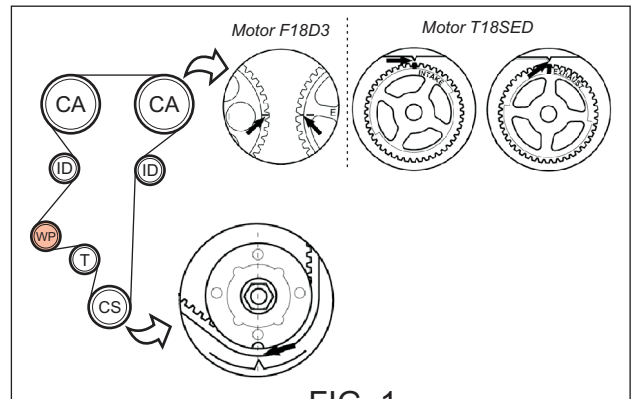
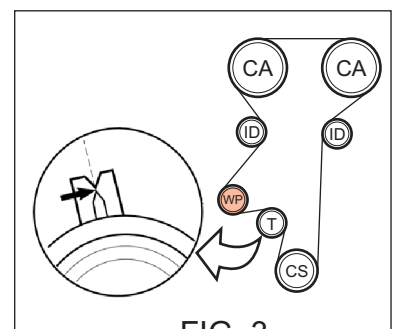

FIG. 1
FIG. 3
- 2 Check timing marks are aligned [FIG. 1].
- 1 Fit Airtex water pump. Then, check timing marks [FIG. 1] and fit timing belt starting at crankshaft pulley.
- 2 Turn the tensioner anticlockwise until mobile indicator is aligned with the groove [FIG. 3]. Then, tighten tensioner bolt to tightening torque (25 Nm).
- 3 Rotate the crankshaft turning it 4 times until timing marks are aligned [FIG. 1]. Then, check the tensioner mobile indicator is aligned with the groove [FIG. 3]. Repeat the process if it is not correct.